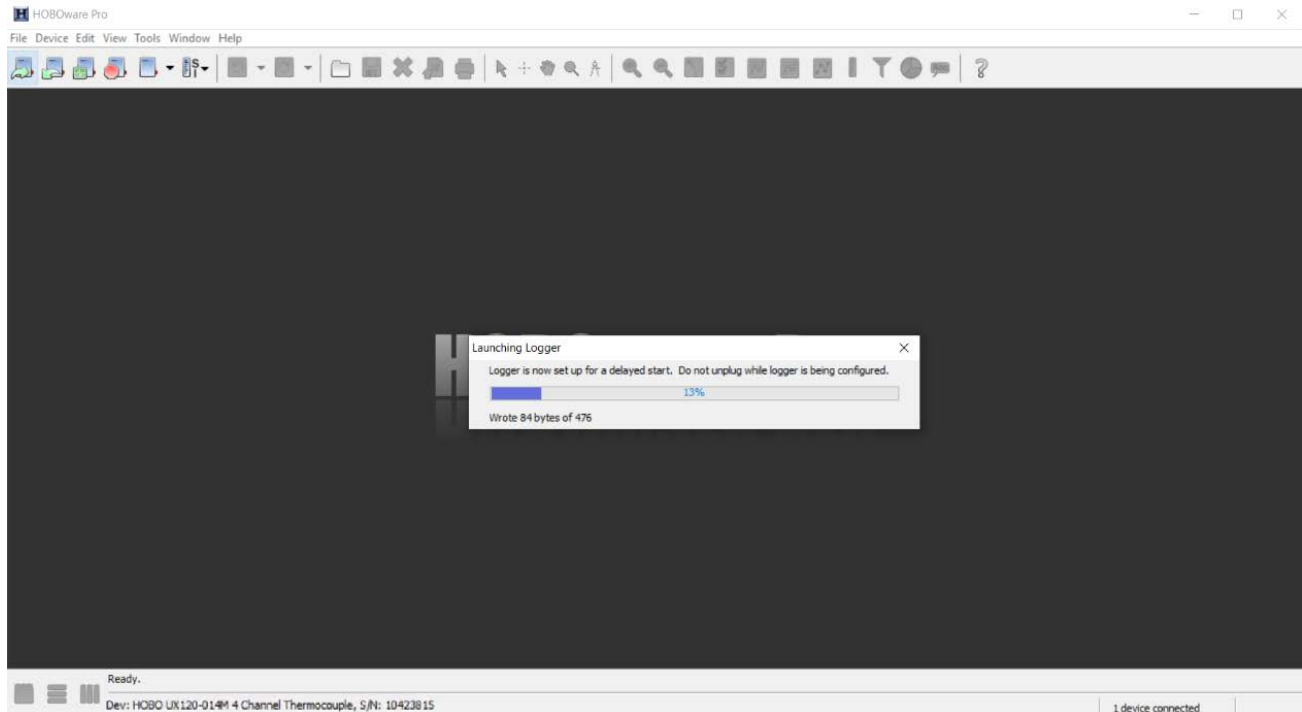

Figure A.12.9: Launching the logger using the HOBOWare software.
11. Click “Delayed Start” to complete the configuration process. Do not unplug the logger from the computer until deployment is complete (shown in Figure A.12.9).